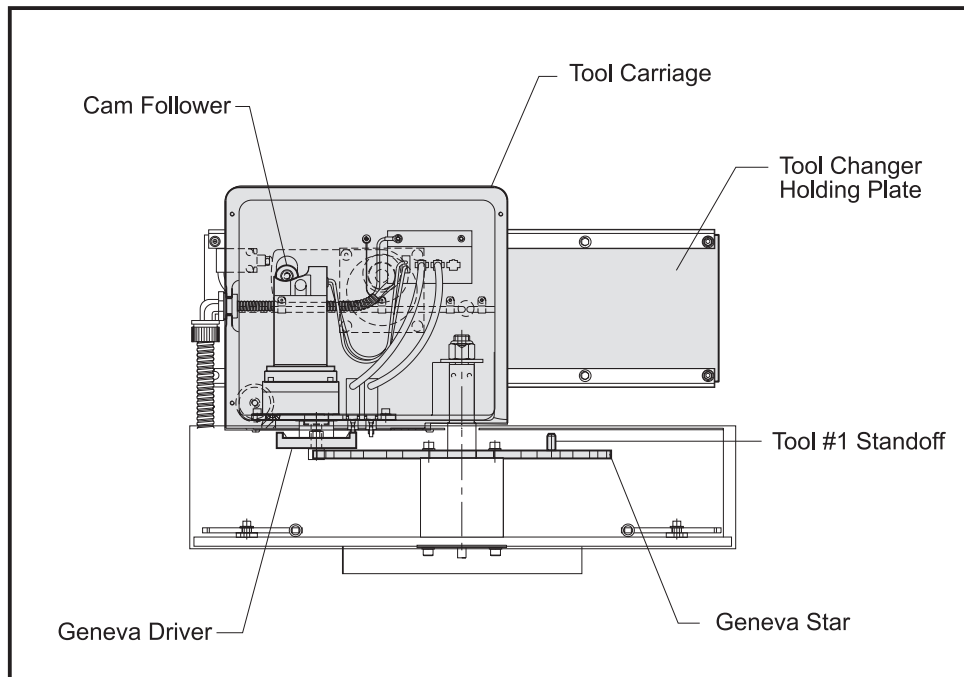

Figure 3-56. Automatic Tool Changer - Mechanical Assembly (Side View)
3. Remove the hex bolt that attaches the cam follower to the slip clutch (see Fig. 3-56).